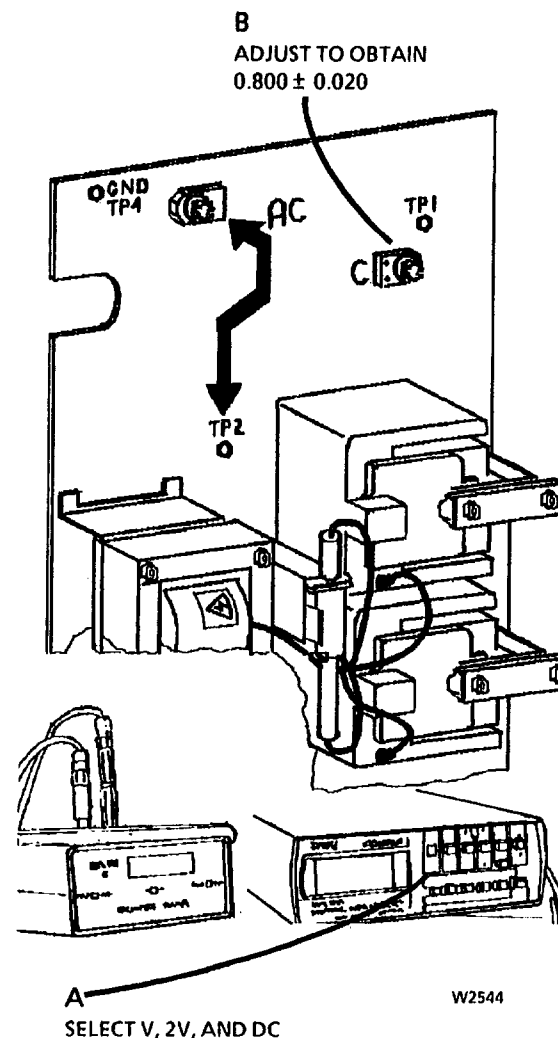

Figure 7. Adjust the Charge Voltage
15. (Figure 7): Adjust the charge voltage.